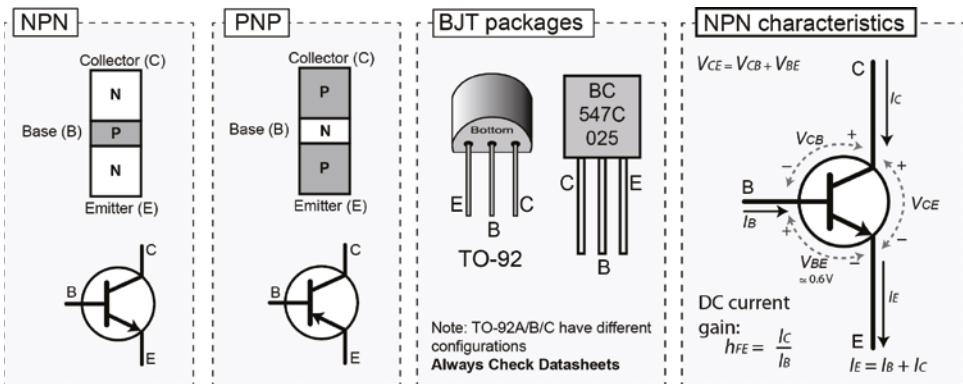

Figure 4-13: Bipolar junction transistors (BJTs)
Bipolar junction transistors (BJTs), usually just called *transistors*, are formed by adding another doped layer to a pn-junction diode to form either a p-n-p or an n-p-n transistor. There are other types of transistors, such as field effect transistors (FETs), which are discussed shortly. The name *bipolar* comes from the fact that the current is carried by both electrons and holes. They have three terminals, with the third terminal connected to the middle layer in the sandwich, which is very narrow, as illustrated in Figure 4-13.
Figure 4-13 presents quite an amount of information about transistors, including the naming of the terminals as the base (B), collector (C), and emitter (E). Despite there being two main types of BJT transistor (NPN and PNP), the NPN transistor is the most commonly used. In fact, any transistor examples in this chapter use a single BC547 NPN transistor type.
The BC547 is a 45V, 100mA general-purpose transistor that is commonly available, is low cost, and is provided in a leaded TO-92 package. The identification of the legs in the BC547 is provided in Figure 4-13, but please be aware that this order is not consistent with all transistors—always check the datasheet! The maximum V_{CE} (aka V_{CEO}) is 45V, and the maximum collector current (I_C) is 100mA for the BC547. It has a typical DC current gain (h_{FE}) of between 180 and 520, depending on the group used (e.g., A, B, C). Those characteristics are explained in the next sections.
Let's examine the characteristics for the NPN transistor as illustrated in Figure 4-13 (on the rightmost diagram). If the base-emitter junction is forward biased and a small current is entering the base (I_B), the behavior of a transistor is such that a proportional but much larger current ($I_C = h_{FE} \times I_B$) will be allowed to flow into the collector terminal, as h_{FE} will be a value of 180 to 520 for a transistor such as the BC547. Because I_B is much smaller than I_C , you can also assume that I_E is approximately equal to I_C .